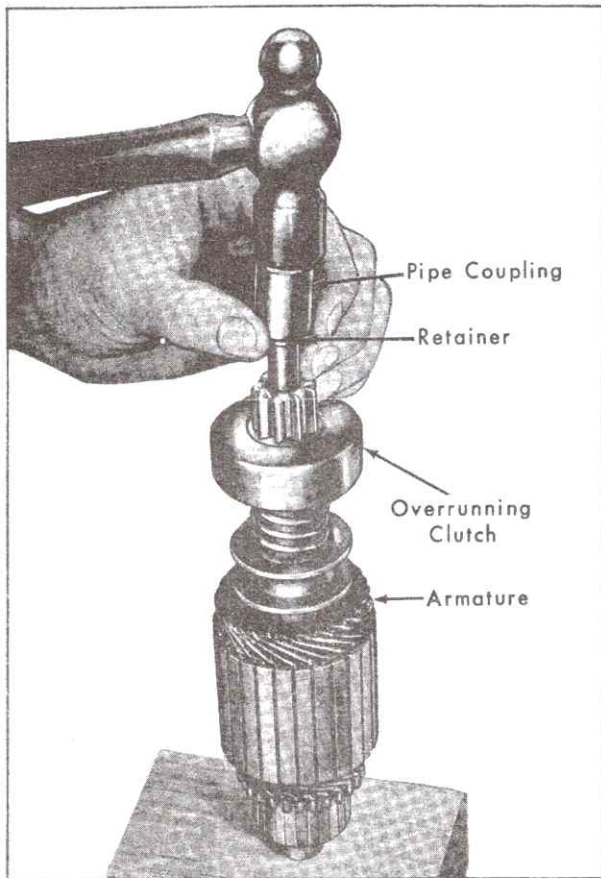

Fig. 6-16 Removing Overrunning Clutch
- b. Slide a standard 3/8" pipe coupling or 5/8" deep well socket onto shaft so end of coupling or socket butts against edge of retainer, Fig. 6-16. Tap end of coupling or socket with hammer, driving retainer toward armature and off snap ring.
- b. Slide clutch assembly onto armature shaft with pinion outward, Fig. 6-16.
- c. Slide retainer onto shaft with cupped surface facing end of shaft, Fig. 6-16.